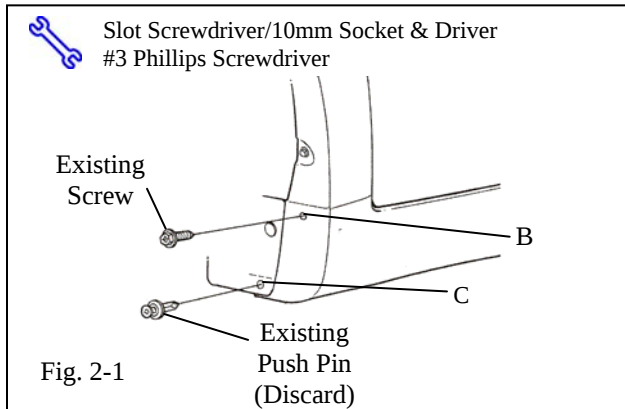

Fig. 2-1
- (a) Remove existing screw location B and place in tray, do not discard. (Fig. 2-1).
- (b) Remove push pin location C and discard (Fig. 2-1).